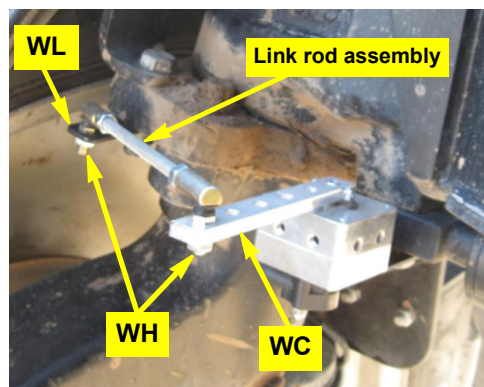

Figure 2d: WAS link rod assembly installed
d. Using hardware **WH**, install the link rod assembly from step 1 between the last hole in WAS arm **WC** and bracket **WL**. Set the swivel studs downward at both ends (Figure 2d). Leave swivel nuts **WH** loose.